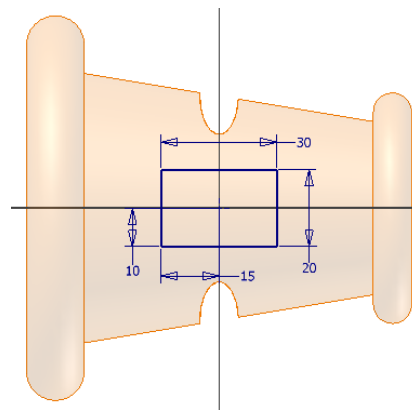

Figure 18-60 Sketch drawn on the offset plane
- f. Define a new work plane at an offset distance of 45 mm and then create the sketch shown in Figure 18-60.
2. Select this plane as the sketching plane and draw the sketch, as shown in Figure 18-60.
10. Turn on the visibility of the sketch that was used to split the base surface, refer to Figure 18-60.